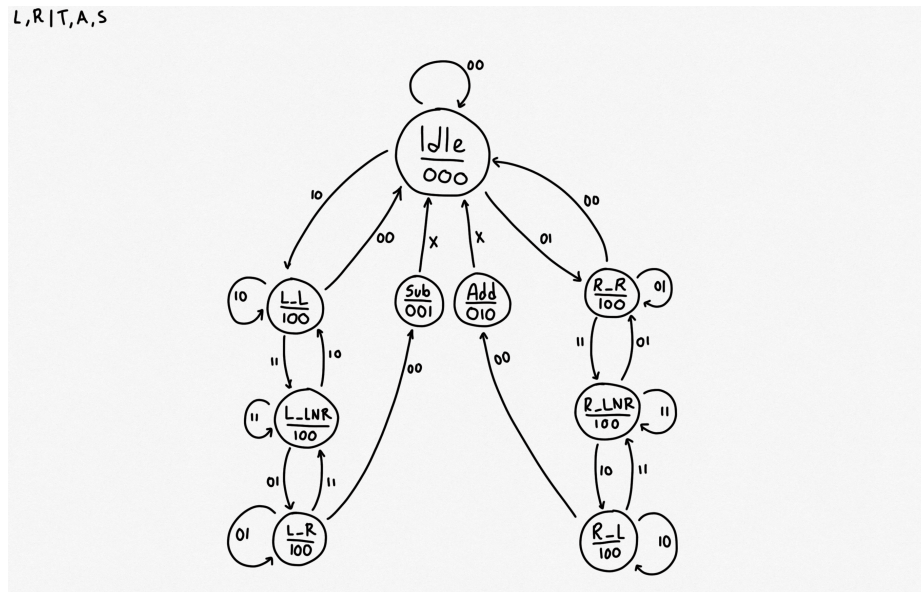

Figure 1: State diagram for laboratory assignment 6. Input is Left (L), Right (R) and outputs are TimeDown (T), Add (A), and Subtract (S).
As shown in **Figure 1** the state machine has 9 total states. Below is a more detailed description of the states and their transitions. All inputs and outputs will be referred to as XX and XXX respectively, where the input XX is Left (L) and Right (R) -which are signals coming from btnL and btnR respectively-, and output XXX TimeDown (T), Add (A), and Subtract (S).